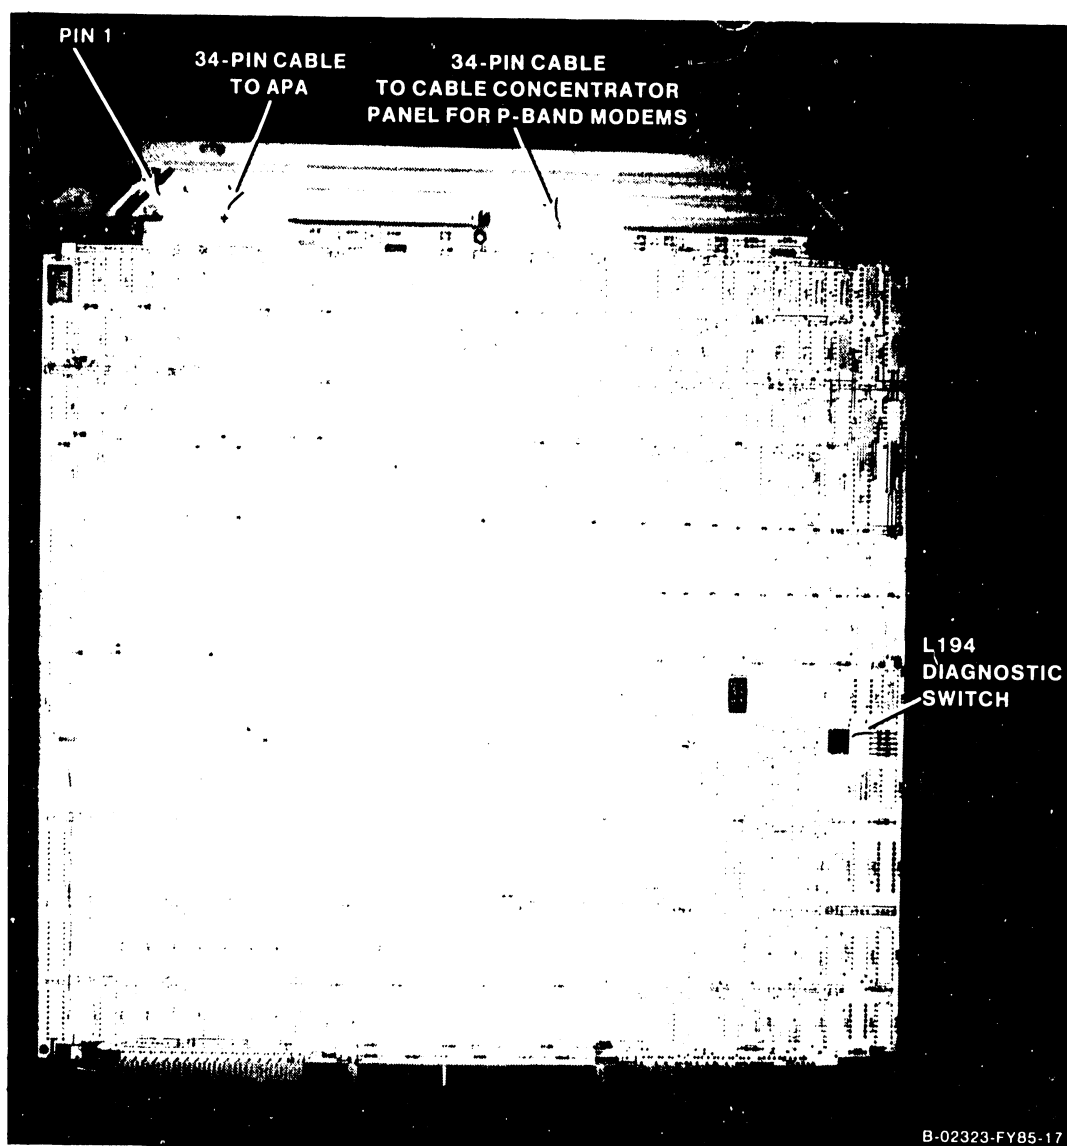

Figure 7-18. 23V67 Serial IOC
2. Disconnect all cables from the top of the 23V67 Serial IOC (figure 7-18). Note the position of all cables for later reassembly.